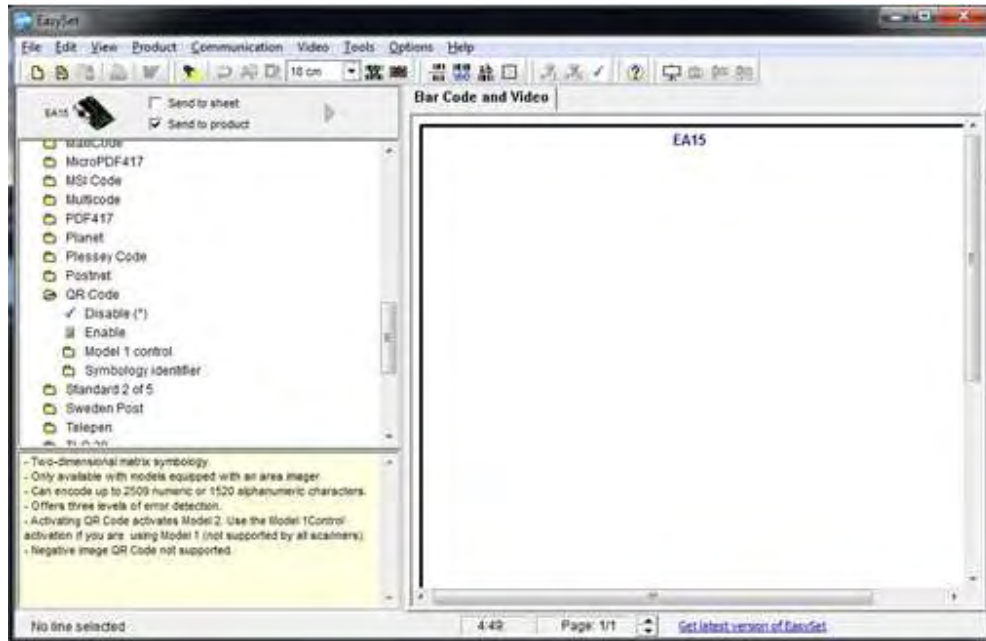

Figure 3-30: EasySet Window
Step 2: Launch **EasySet** from the system **Start** menu. The EasySet window appears (**Figure 3-30**).